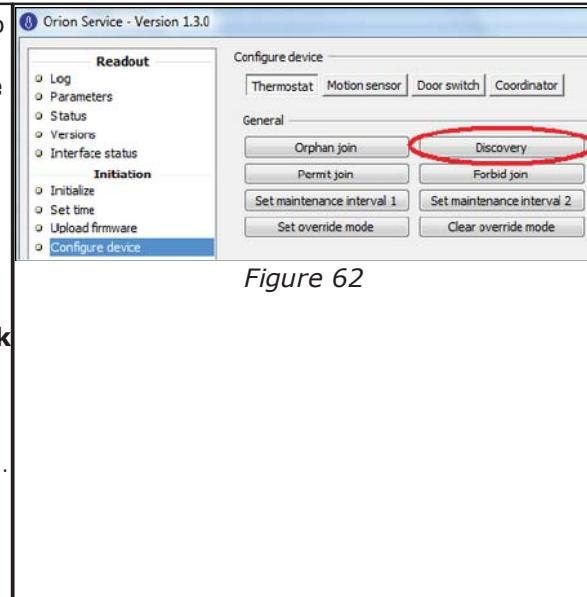

Figure 62
5. In the *Orion Service* software (go to **Start/Programs/Orion Service/Orion Service**), choose **Configure device** in the left pane of the window. Let the tab **Thermostat** (default) be open and click the **Discovery** button; see *Figure 62*. The thermostat will connect to the open gateway/router.